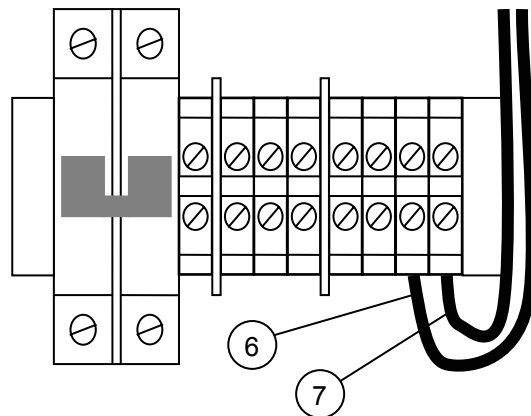

Figure 4: 115V output voltage
- 115 Volt: refer to figure 4. Connect transformer wire 6 to terminal 6 at the **115V-side** and connect the transformer wire 7 to terminal 7 at the **115V-side**.